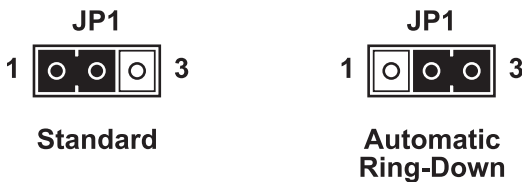

Figure 3-1. JP1 jumper settings.
3. Using small needle-nosed pliers or similar device, move the jumper to the desired position. (Refer to Figure 3-1.)
Figure 3-1 illustrates the jumper settings.